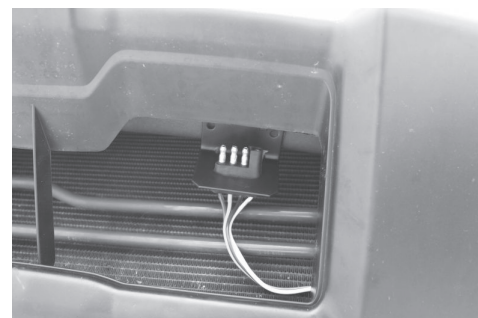

Figure 6
14. Locate the front frame rail that goes across the front of the vehicle. Locate a suitable position to mount the 4-Flat bracket shown in **Figure 6**. Using the bracket as a template mark the two holes and drill two 3/32" holes and attach the bracket using the two remaining screws.